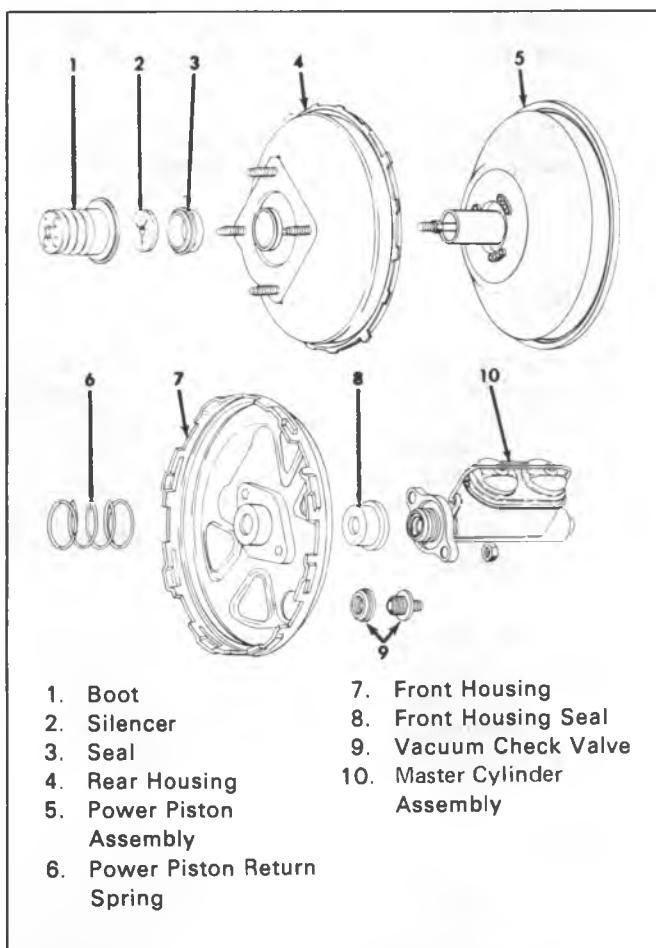

Fig. 2A-Delco-Moraine Power Unit
7. Remove the silencer from inside the boot (fig. 2A).